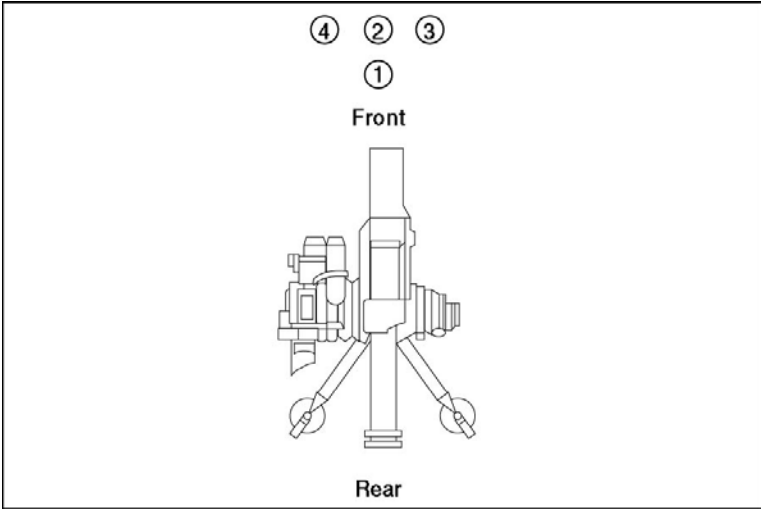

Figure 2-7-1: Detachment Drill Front
18. **Detachment Front.** On the command, DETACHMENT FRONT (see Figure 2-7-1):